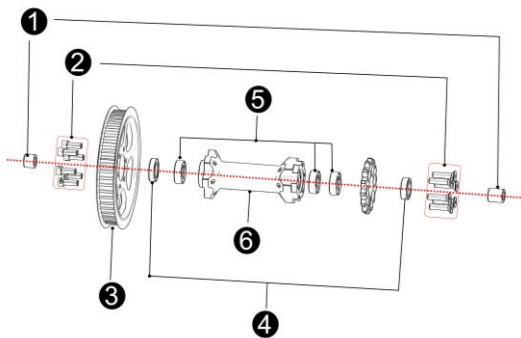

Fig 31
11.1 Dismount middle bushing (see Fig 31)